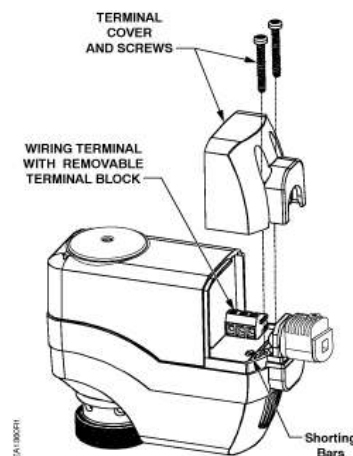

Figure 5. Manually Clearing Calibration Stroke from Memory.
3. Insert and gently twist a flat-blade screwdriver to electrically connect the shorting bars (see Figure 5). The SSD61.5U then performs a new calibration stroke.